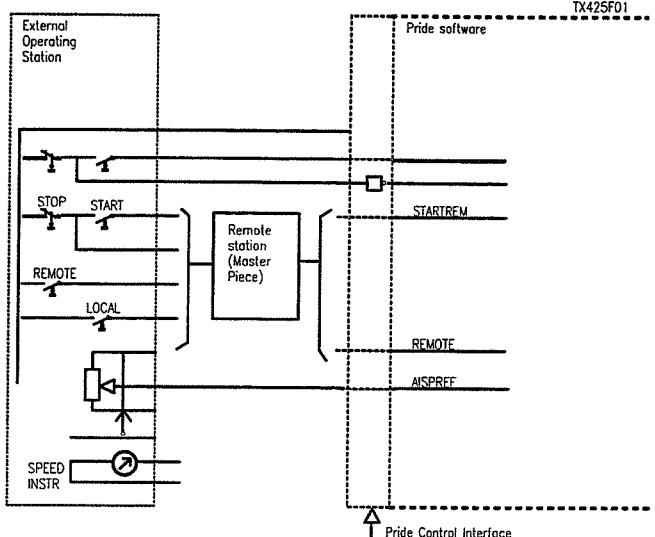

Fig. 4 Example of start/stop and potentiometer speed setting from an external operating station via I/O interface .
- an operator's console connected via the remote station or to the I/O terminals in the drive. The speed setting may be with an adjustable reference voltage e.g. from a potentiometer connected via an analogue input as in fig. 4.